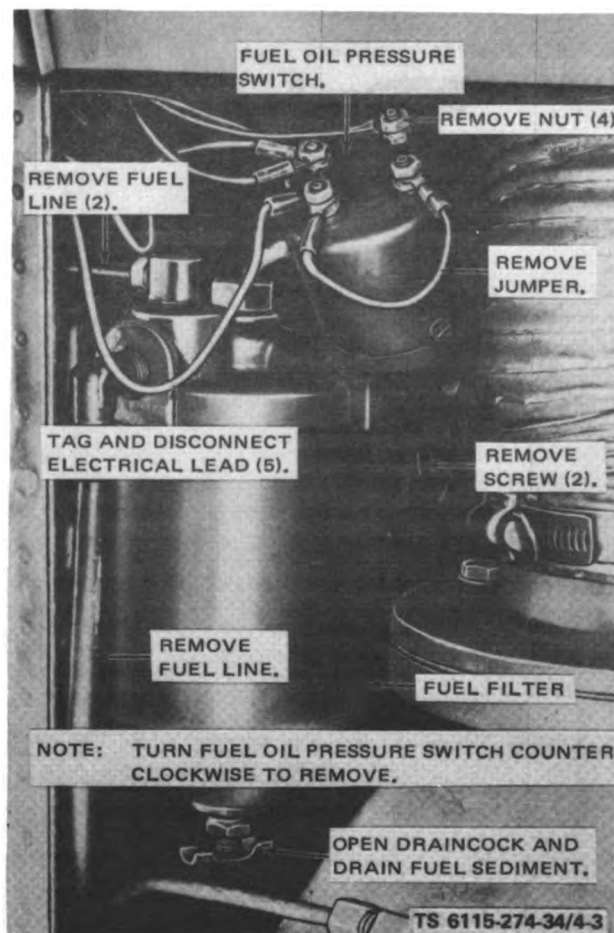

Figure 4-3. Fuel Filter and Fuel Oil Pressure Switch, Removal and Installation
(1) Refer to figure 4-3 and the following steps to remove the fuel filter.
(2) Tag and disconnect electrical leads to the fuel oil pressure switch and turn it counterclockwise to remove. The pressure switch is removed to allow working space for removal of the fuel filter.
(3) Open fuel filter draincock and drain fuel sediment into suitable container and discard.
(4) Disconnect fuel lines from fuel filter.
(5) Remove screws securing filter and remove filter.
(1) Refer to figure 4-3 and install filter with screws.
(2) Connect fuel lines to fuel filter.
(3) Install fuel oil pressure switch on the fuel filter turning clockwise to tighten.
(4) Connect electrical leads to the fuel oil pressure switch.